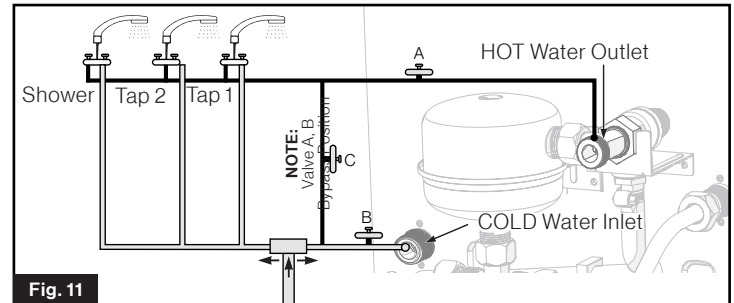

Fig. 11
Water plumbing (Fig. 11)
- **Optional:** The bypass valve can be installed (Fig 11) to facilitate winterizing the coach. It is not required as anti-freeze can be used in the appliance, however additional anti-freeze (about 1L) is required to fill the volume. Refer to the winterizing section of this manual for instruction methods.
2. Create a piping layout to supply the appliance and all faucets, reference Fig. 11.